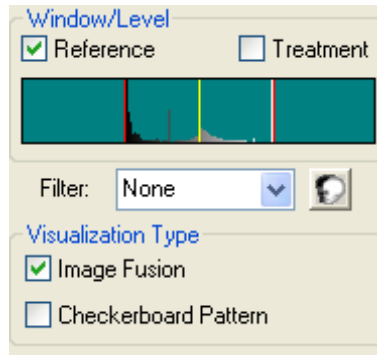

Figure 42: Image Fusion Check box
4. Make sure the *Image Fusion* check box is selected in the *Visualization Type* group. *Image Fusion* is selected by default. Refer to Figure 42 below.